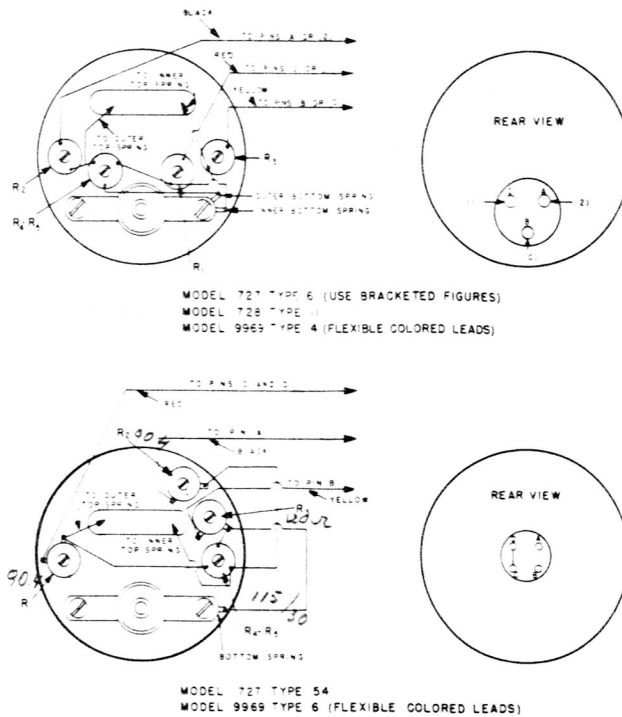

Figure 236—Pictorial Wiring Diagram
1. Mount and connect the moving coil shunt spool  $R_1$ - $R_2$  and spool  $R_3$  as shown in the pertinent pictorial diagram of figure 236.